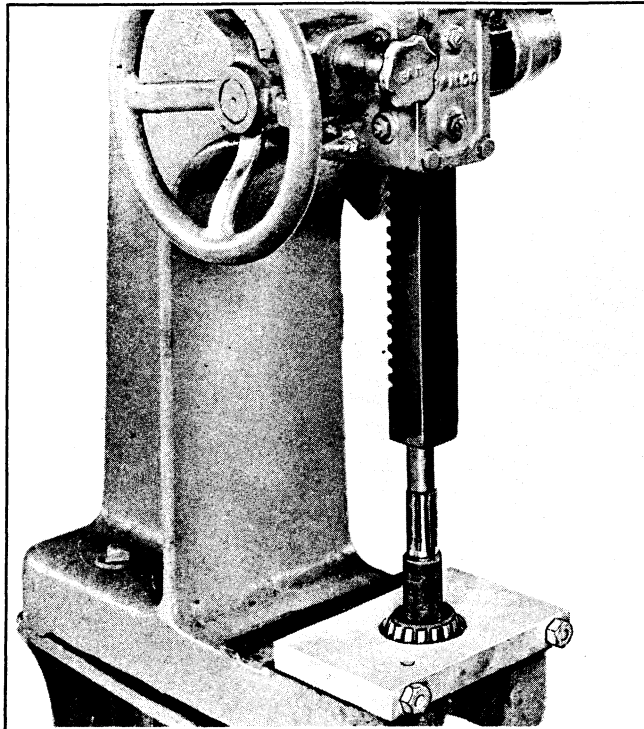

Figure 2-10. Removing Pinion Shaft
16. Remove drive pinion shaft rear bearing cone (30) with press tool similar to one shown in Figure 2-10.
17. Remove drive pinion shaft bearing cups (31) and (32) from housing with a drift or suitable puller. When removing bearing cup (32), remove adjusting shims (33), and record thickness of shims.